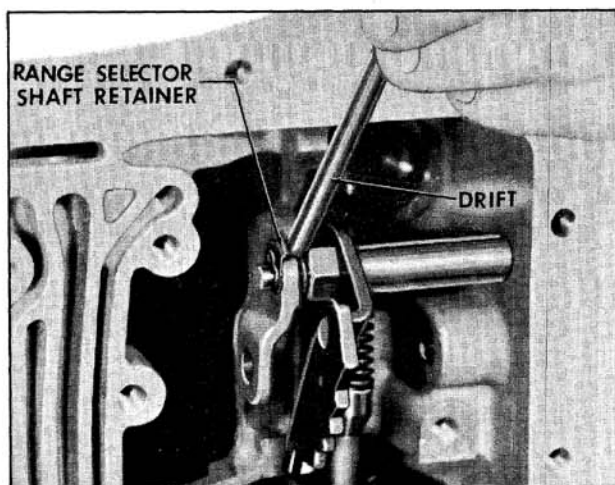

Fig. 6-485 Installing Retainer
6. Install range selector shaft retainer. (Fig. 6-485)